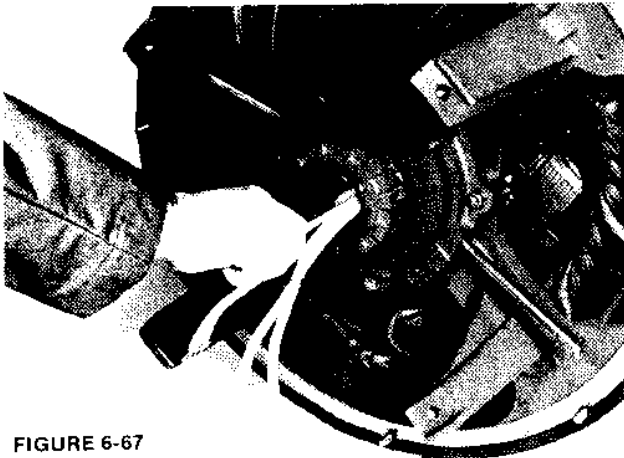
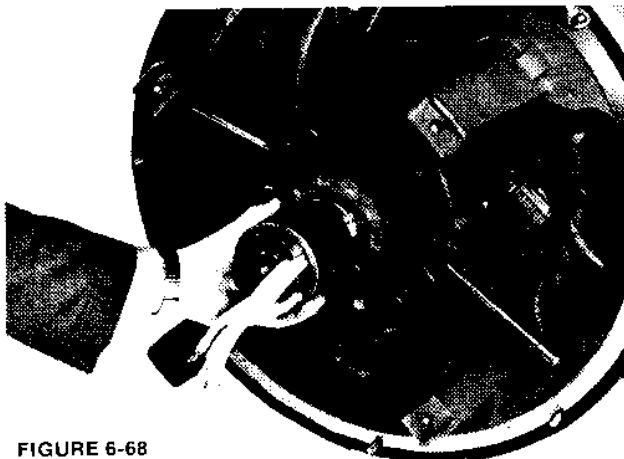

FIGURE 6-67
FIGURE 6-68
3. Install snap ring. (Figure 6-67.) Use a piece of pipe slightly larger than the shaft (2-3/4 inches) to push the rotor back against the loading spring until the snap ring seats in the slot. (Figure 6-68.)